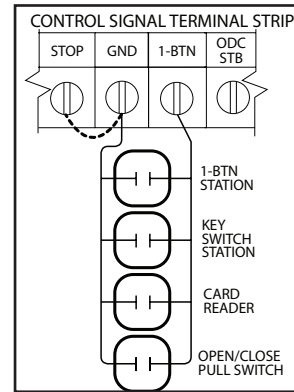

Figure 4
This model of CDX® features a "Drop Lever" which must be fully raised and secured by release linkage system. When lever is fully raised, drive motor is engaged to operator output shaft. If release system for door has not been installed, drop lever may be temporarily secured by rope or cable to a point above operator. **FIG. 4.**
- 2) For single button accessory controls, make connections as shown in **Fig. 4**.